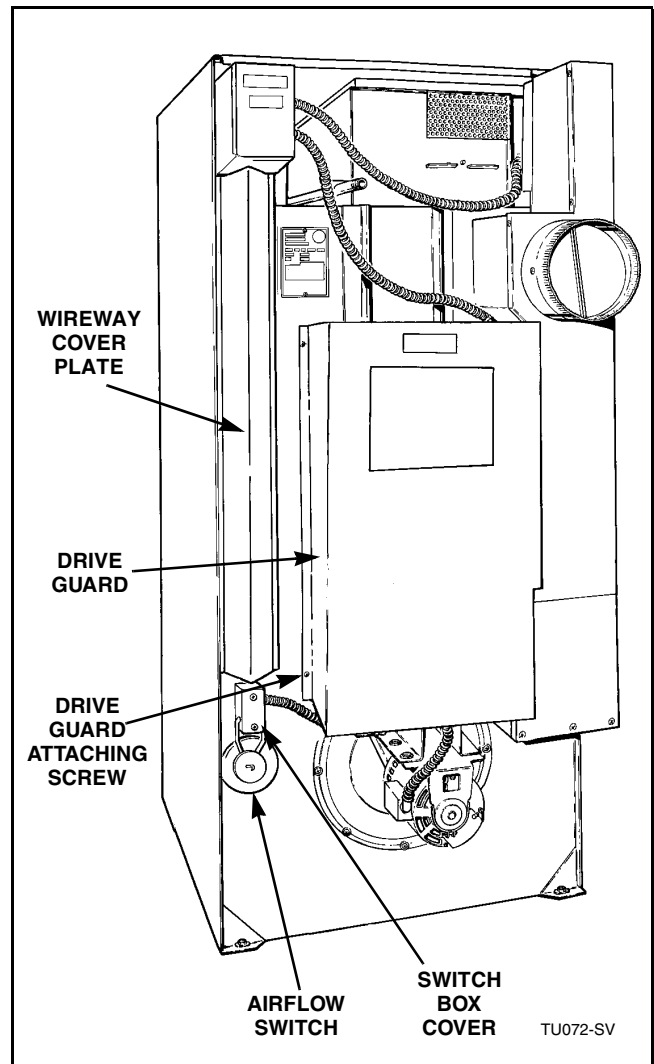

Figure 37
- Remove wire-way cover plate (older models), or airflow switch box cover (newer models, *Figure 37*).
Refer to *Figure 37*.
- a. Support drive guard and remove screws holding guard to rear of tumbler. Refer to *Figure 37*.